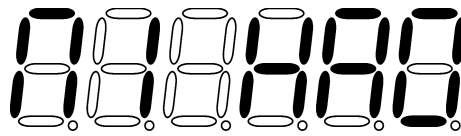

Figure 27: Result of SayNiHao code
- Press Key B: LED4 lights, buzzer sounds, display shows “Ni HAO” as shown in Figure 27.